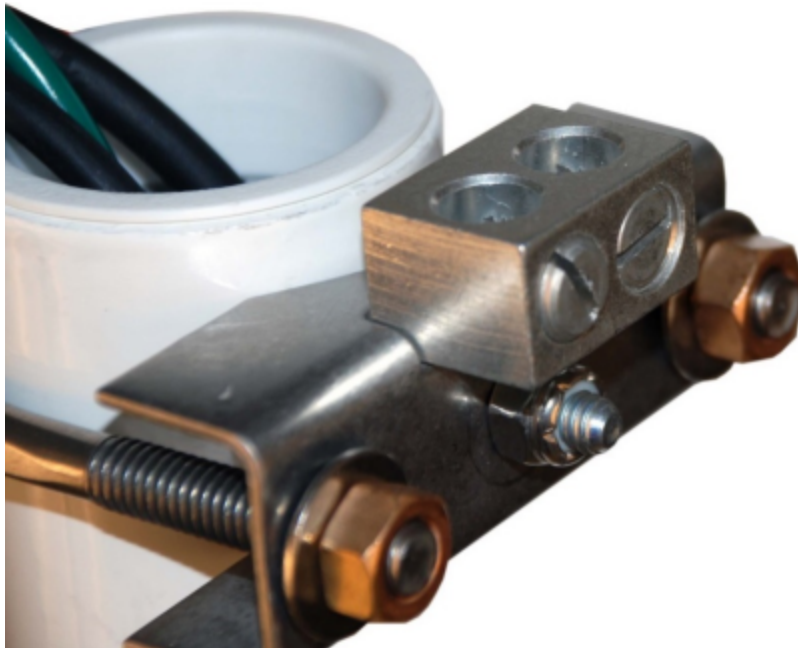

FIGURE 6-40. Lightning rod bracket installation
Install lightning rod as shown in FIGURE 6-40 (p. 58) and FIGURE 6-41 (p. 59).
1. Carefully mount the lightning rod clamp to the top of the pole (FIGURE 6-40 (p. 58)). Position the clamp so it won't interfere with the connector cover.